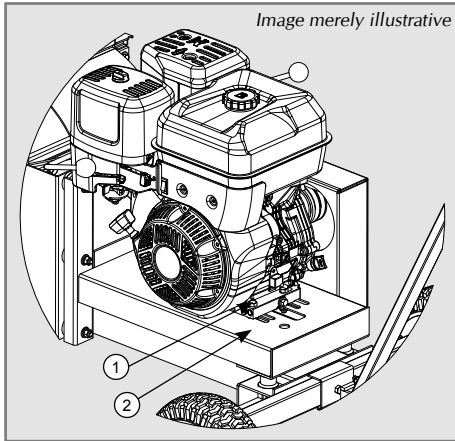

Fig. 5
1. Loosen the motor fixing screws and nuts (1), positioned on the base (2), so that the belts are with the desired clearance, as shown in Figure 5.